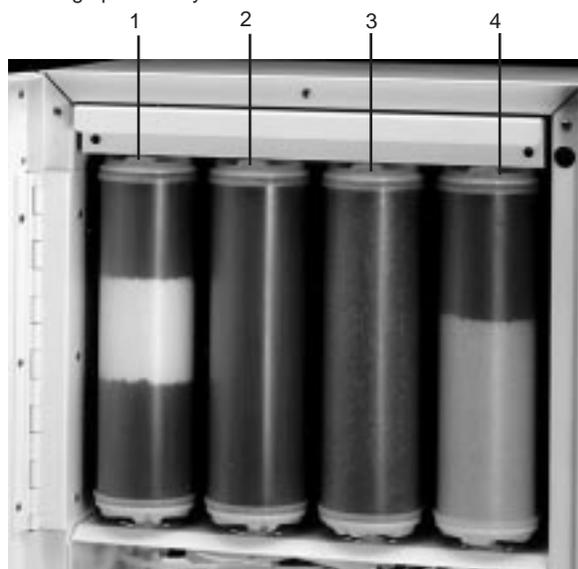

Figure 10 Proper Cartridge Order
2. The cartridges will be installed according to the charts below. Position 1 is the farthest left, position 2 the next one to the right, position 3 the next one to the right and position 4 farthest right. (See Figure 10). Proceed to step 3.